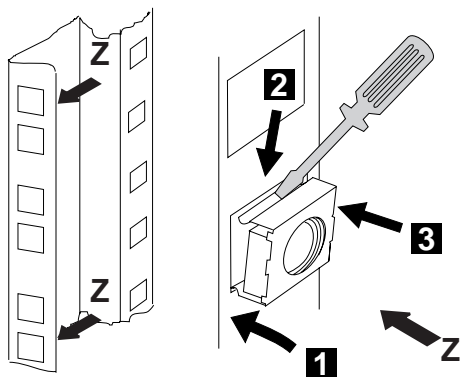

Figure 1-4. Installing the Captive Nuts for the 6275
2. \_\_\_\_ Refer to Figure 1-4 and install four captive nuts (PN 58G5766) on the left and right side of the controller expansion.